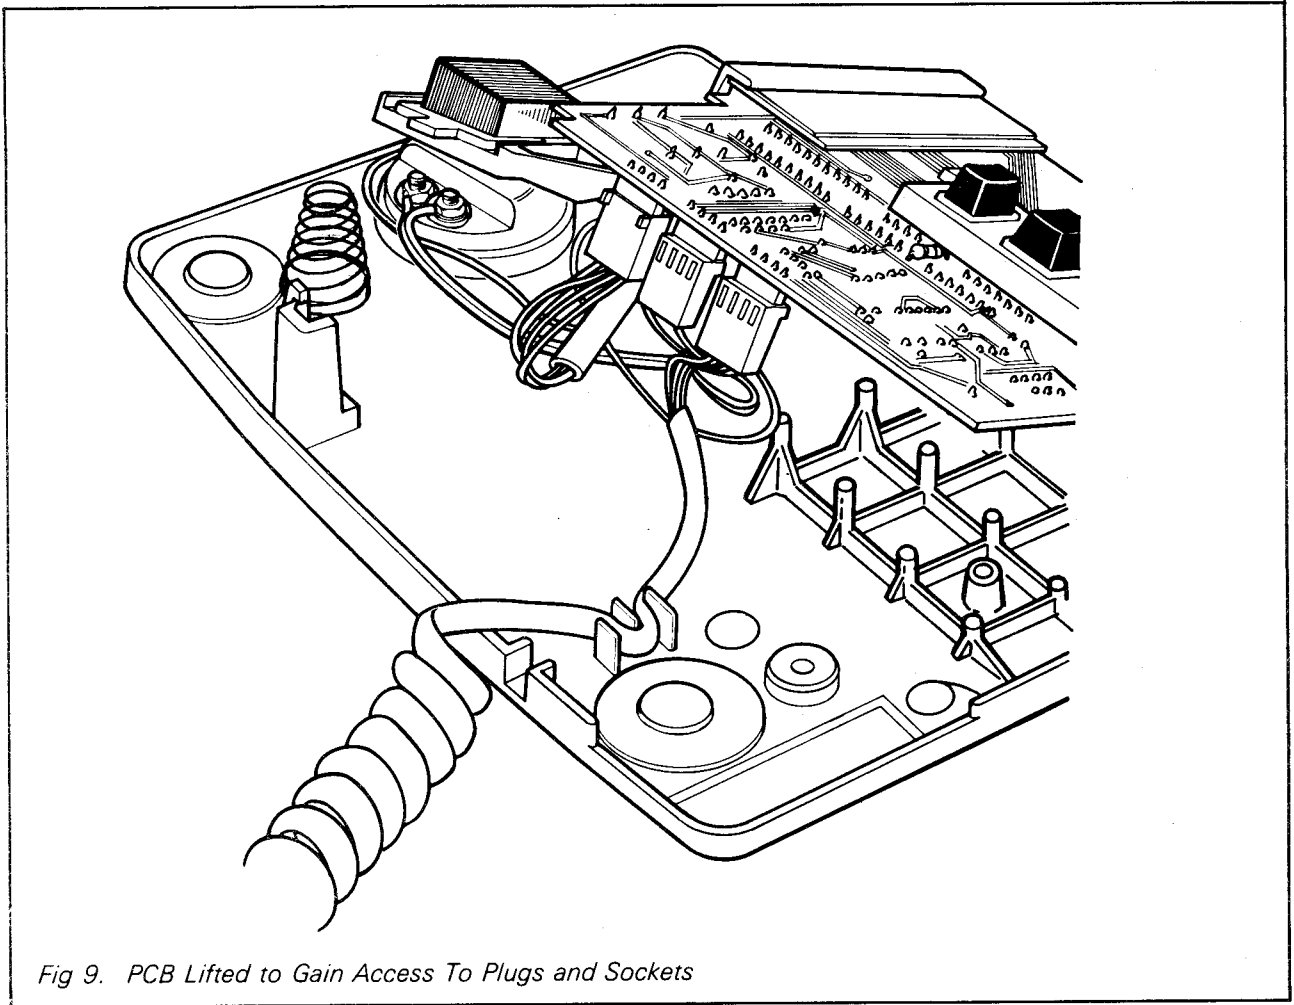

Fig 9. PCB Lifted to Gain Access To Plugs and Sockets
- iv Lift the p.c.b. and keypad assembly clear. See Fig 9.